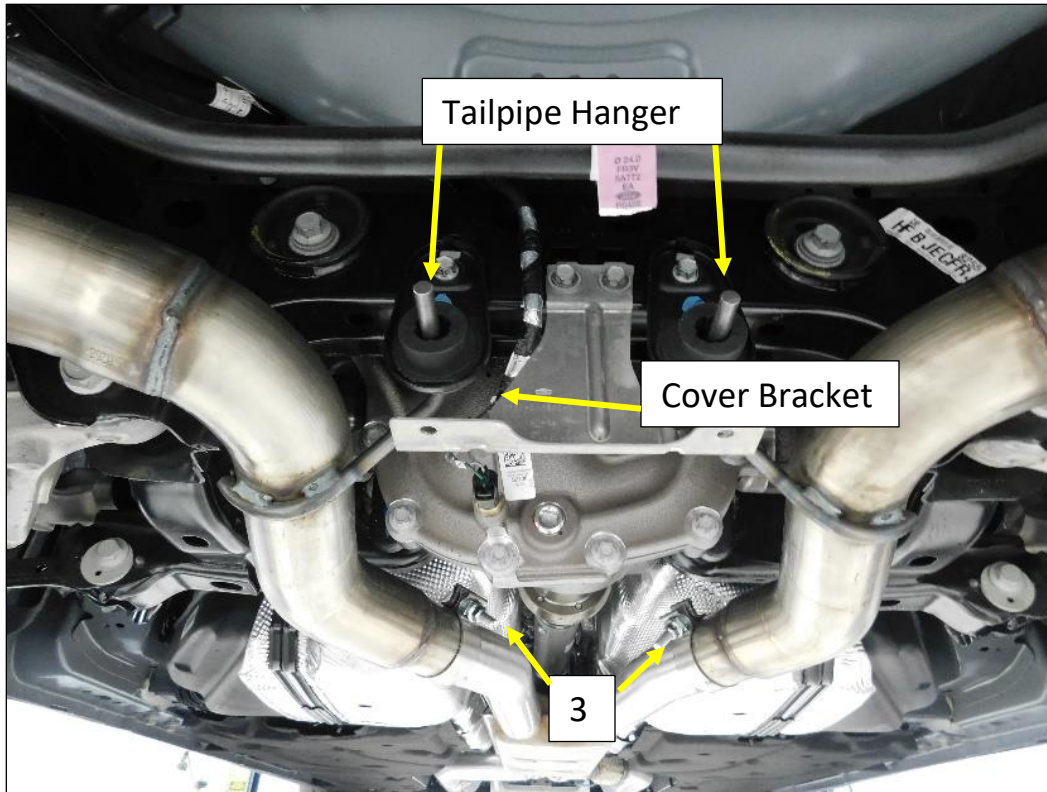

Figure 10
7. Install the tailpipe hanger assembly on to the Flowmaster hanger rod. Align the bolt hole and frame clip. Install and tighten the mounting bolt (**Fig. 10**).
9. Install the rear cover mounting bracket and bolts (**Fig. 10**).
10. Tighten the 2.5" band clamp (3) to allow for adjustment (**Fig. 10**).
12. Check all clearances and tighten the band clamp (3) fully.